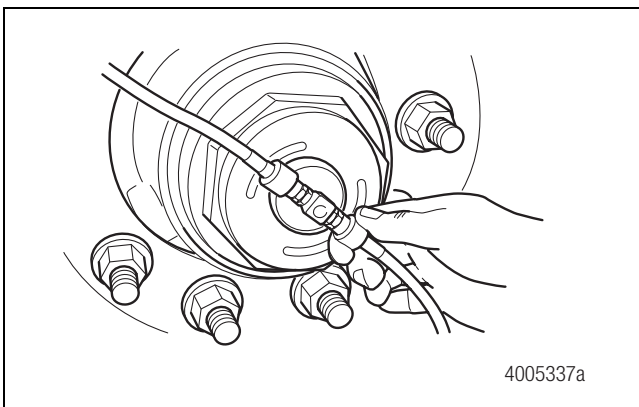

Figure 6.1
1. Remove the tire inflation system hose at the through-tee. Figure 6.1.